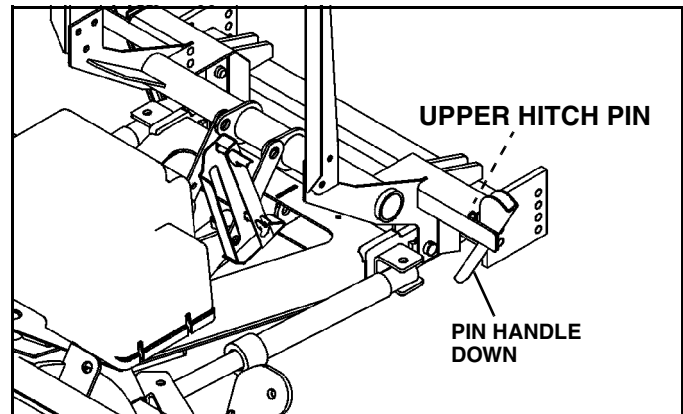

Figure 1-23
4. Put plow into float position by turning down pressure off. Rotate pin handles down to lock upper hitch pins in place. (See Figure 1-23).